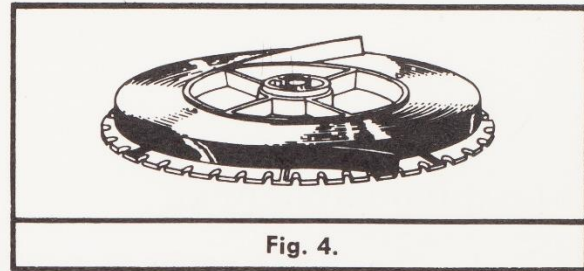
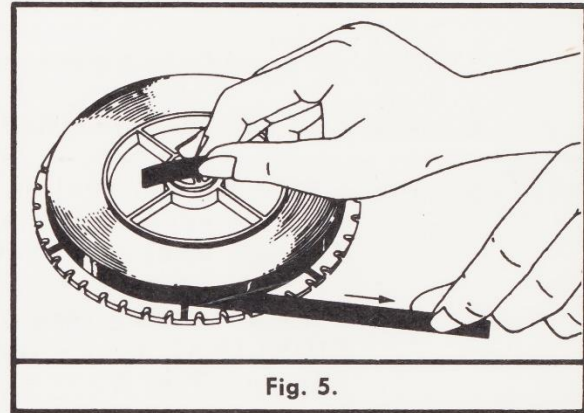

Fig. 4.
Fig. 5.
11. Make sure all slack tape has been fully wound on FIDELIPAC reel. Fig. 4 Then, by holding tape sticking out at center hub and also, at the same time, placing finger on center hub to keep reel from turning, (Fig. 5), pull on outside end of tape until approximately 18 inches from reel. (Tape will slip off and reel should not turn.)